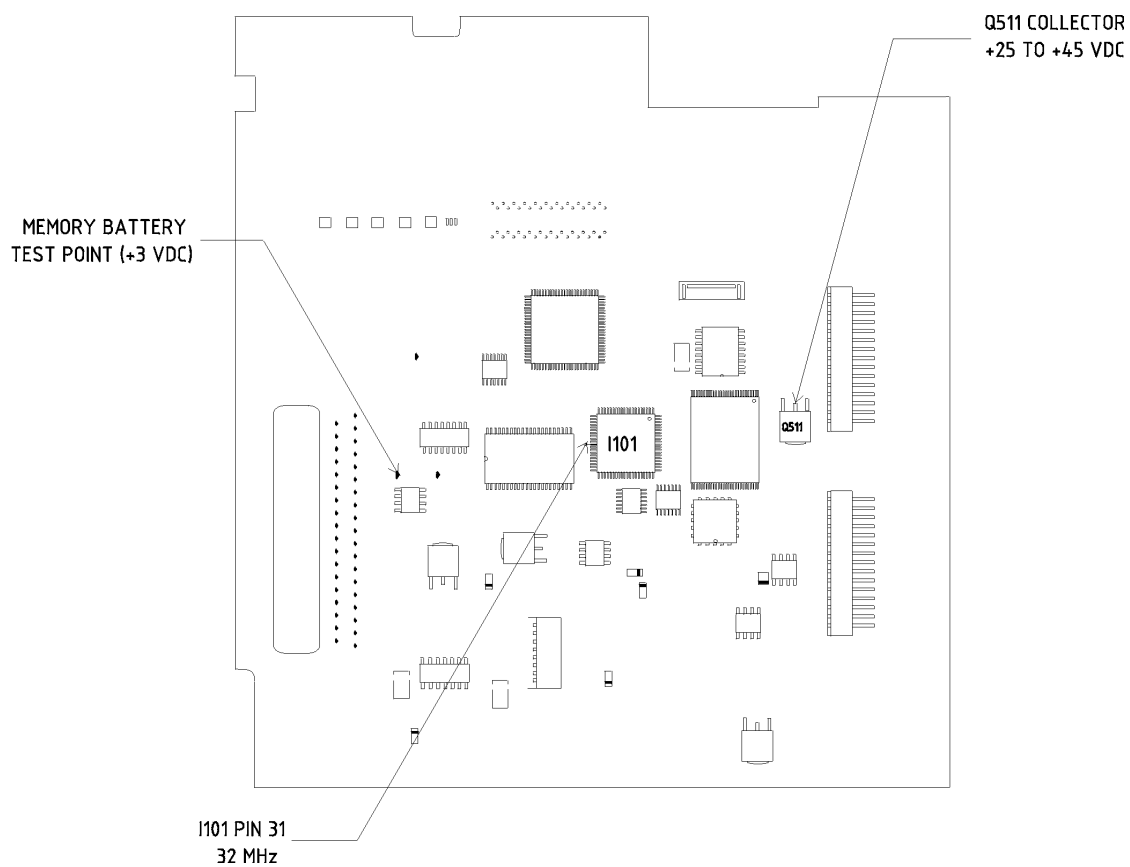

Figure 3-2. CPU Board Test-Points (Bottom View)
5. Check the DC voltage between D508 and ground as shown in Figure 3-2. The voltage should read between 12 and 18 V. If the voltage is out of the specified limits replace the CPU board.
Check the clock speed by placing an oscilloscope probe at I101, pin 28 as shown in Figure 3-2. The frequency should be approximately 32 MHz. If the clock is not operational, replace the GPS receiver. If the clock still fails to function, replace the CPU Board.